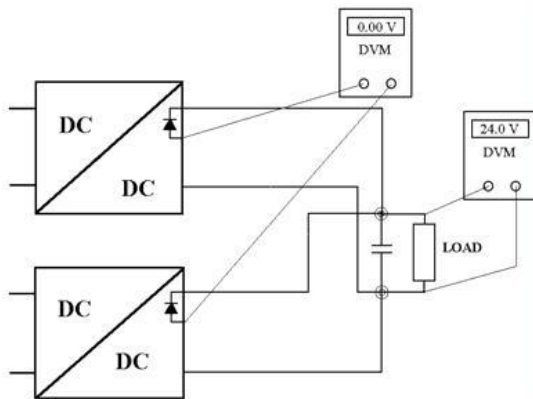

Figure 6. Adjusting output voltage measure at +Test or pin 8 on the H15 connector.
2. Measure the voltage at the load. Connect voltmeters as showed in *Figure 6*. If you have only access to one voltmeter you must move it around to make the adjustments.
3. To **increase** the output voltage. Increase the output voltage by turning the potentiometer marked "V.ADJ" clockwise on the unit with the lowest output voltage until you reach the desired voltage at the load or until the output voltage does not increase anymore (as the unit is in current limit). To find the unit with the lowest output voltage you can measure the voltage difference before the series diode, as in *Figure 6*. Repeat from i. until you reach the desired output voltage at the load.
- i. Decrease the output voltage by turning the potentiometer marked "V.ADJ" counter clockwise on the unit with the highest output voltage until you reach the desired voltage at the load or until the output voltage does not decrease anymore (as the other units supply all current). To find the unit with the highest output voltage, measure the voltage difference before the series diode, as in *Figure 6*.